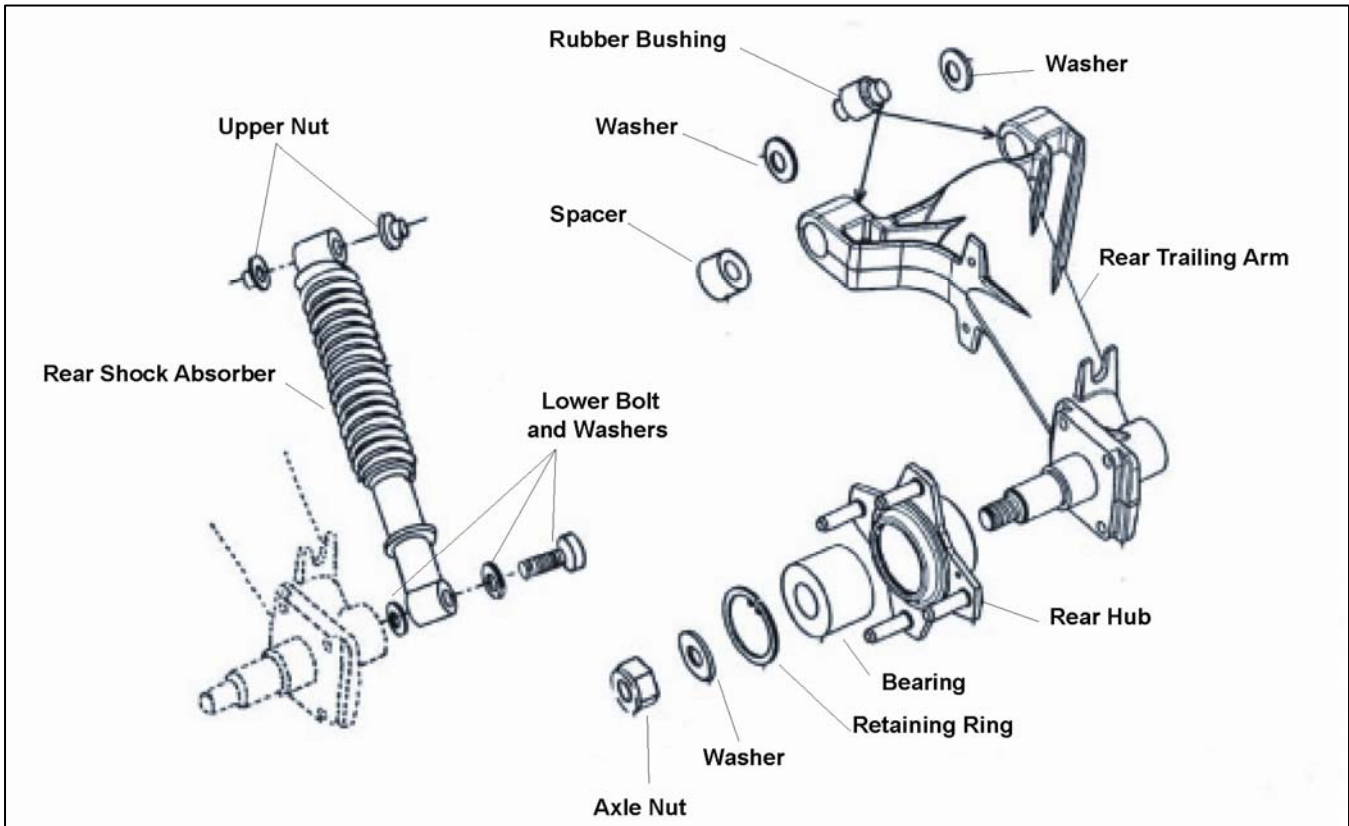

Figure 6-5
3. Disconnect the rear shock absorber from the trailing arm (Figure 6-5).
8. Replace the two rubber bushings (Figure 6-5).
5. Re-attach lower shock to trailing arm with bolt and washers (Figure 6-5).